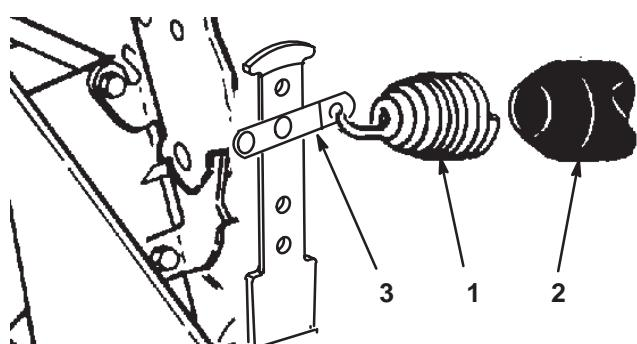

Figure 17
- On the rear counterbalance arms, install the vinyl cover over the spring before hooking the other end of the spring into the spring shackle in the second hole from the top (Fig. 17).